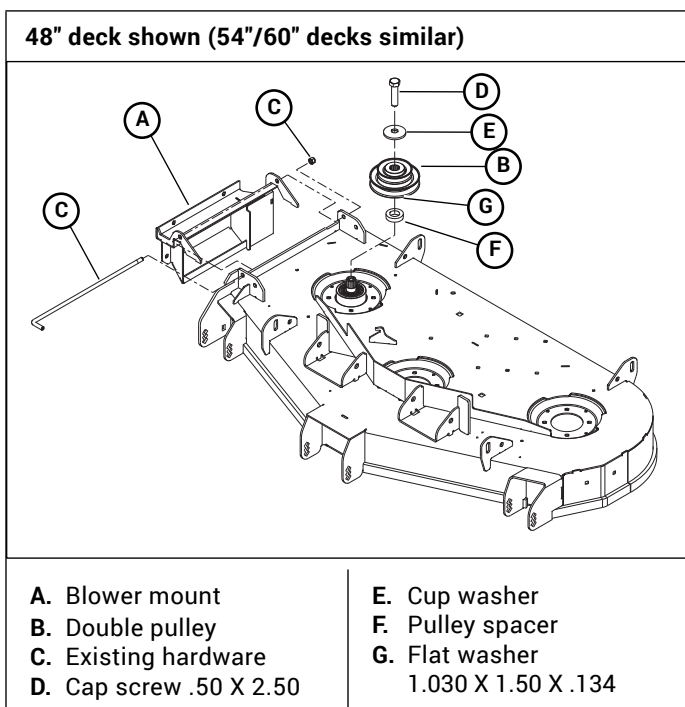

Figure 3-4
- The pin and nut will be used to attach the catcher's blower mount to the deck. Figure 3-4
13. Release the deck drive belt tension. Remove the existing spindle bolt and pulley from the right side blade spindle. Replace the pulley with the double pulley and spacer. Place the new cup washer between the head of the new bolt and the drive pulley. Thread the cup washer and bolt assembly into the right side spindle shaft. Torque bolt to 70 ft-lbs (95 N•m). Figure 3-4
14. Assemble the blower mount to the deck. Figure 3-4